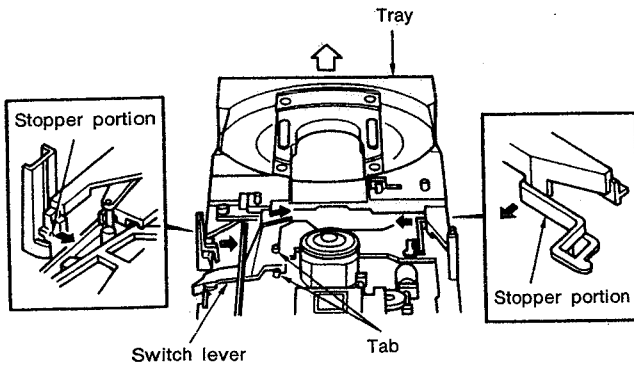

Fig. 1
1. Parts replacement of the tray mechanism (Figs. 1 and 2)
Open the tray and use a flat-bladed screwdriver to press the stopper portions of Fig. 1 (one each in the left and right locations) in the direction of the black arrow, then remove in the direction of the white arrow.
(2) Mounting of the tray (Figs. 1, 2 and 3)
(5) Replacement of the switch lever (Fig. 1)